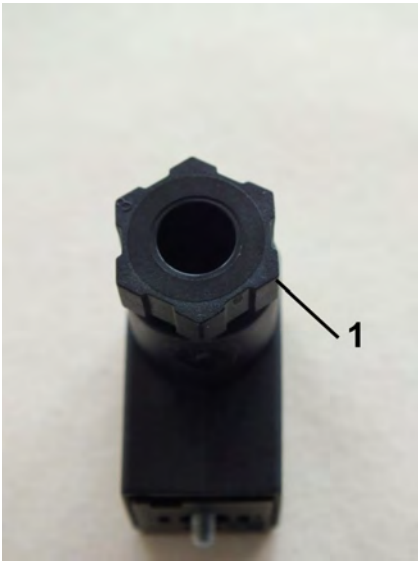

Fig. 23: Loosen the screw connection
4. ➔ Unscrew the screw connection (Fig. 23/1) by turning it to the left
8. ➔ Retighten the screw connection (Fig. 23/1) by turning it to the right